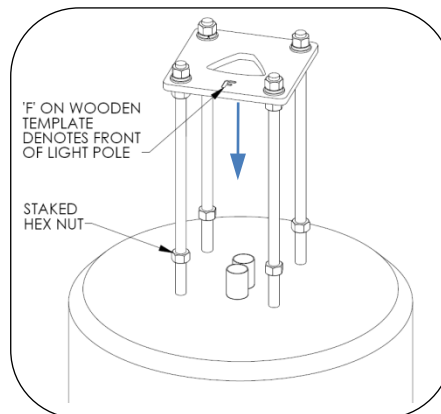

Fig. 3 – Install anchors
2. Install staked anchor bolts, hex nuts, washers and wooden template as shown in Fig 3.